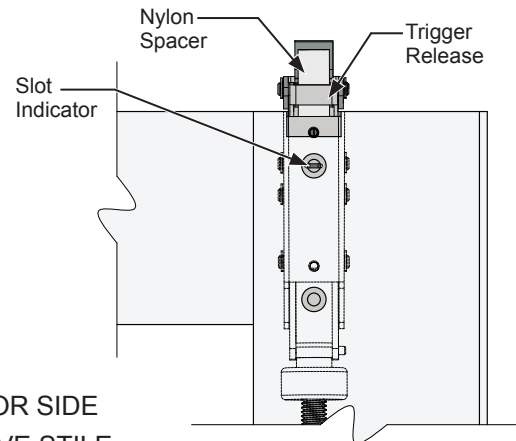

FIG. 8
4. Install the top latch assembly with the nylon spacer by rotating the latch assembly on to the rod turning it clock wise until the slot indicator aligns with the upper counter sunk hole on the door stile. **(Fig. 8)**